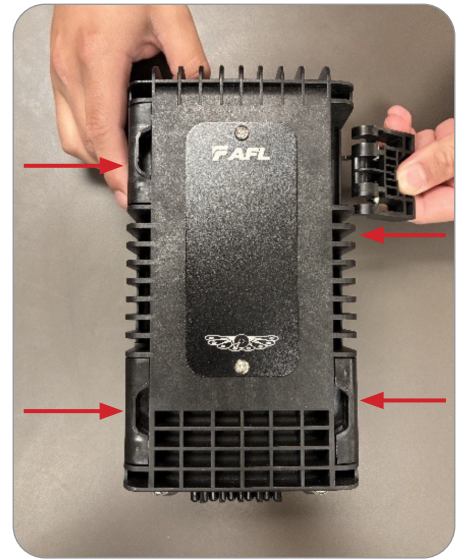

Figure 35
3. Engage the two (2) latches on the Box Lid and then push the four (4) latches inward. (Figure 35)